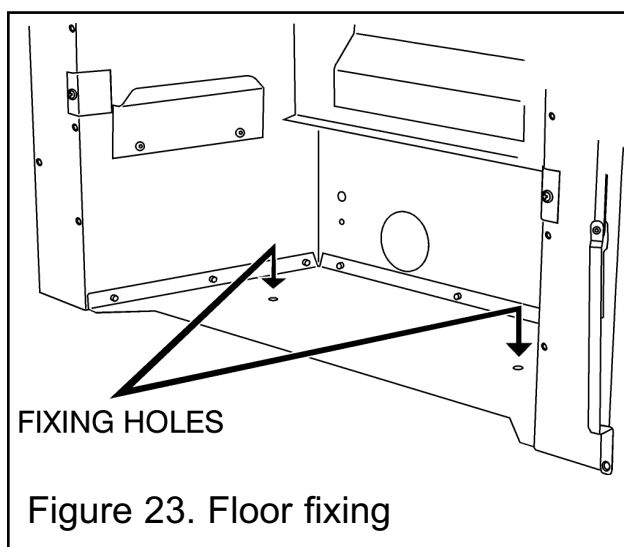

Figure 23. Floor fixing
8. Drill a hole into the fireplace floor through each of the two holes in the base of the convection box using a suitably sized masonry drill for the fibre / wooden plugs supplied (See figure 23).